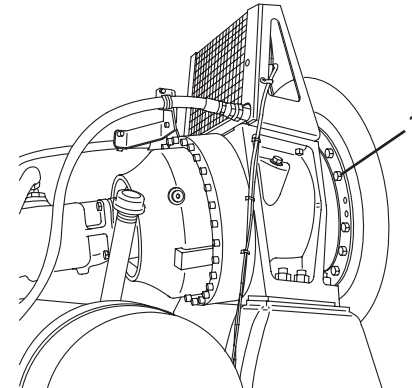

Figure 110
8. Check the drum flange bolt (Figure 110, Item 1) torque. (Refer to the Service Manual for torque valves.) If a bolt turns during this check, that bolt must be removed and replaced with a new Grade 8 bolt.